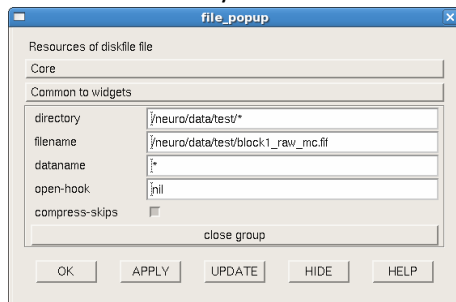

Figure 48: Compress skips.
- Select **File -> Open Diskfile**, select the button **resources** in the file selection dialog (Figure 46b). By default, **compress-skips** is active (Figure 48).